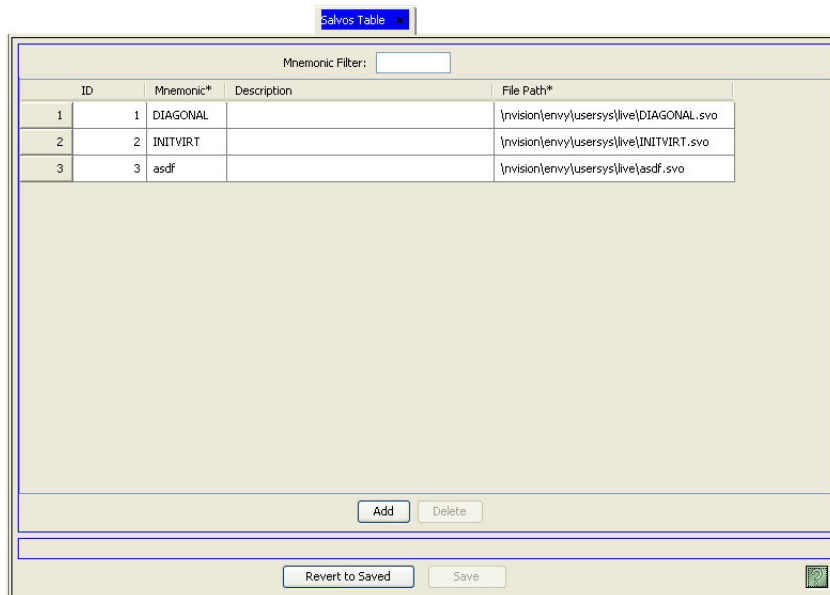

Figure 15-12. Salvos Table
- 2 From the Navigation area, select the 'Views' pane and then 'Salvos'. The 'Salvos' table appears, as shown in Figure 15-12.